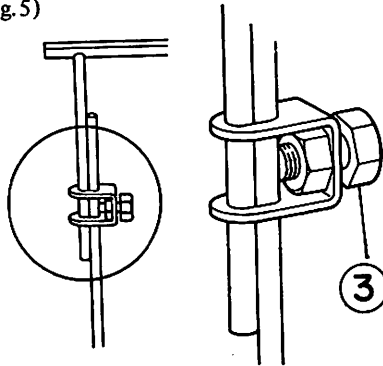

Fig. 5
Loosen the screw ③ of the coupling of the connecting bar and adjust by inserting and withdrawing the connecting bar. (Fig.5)